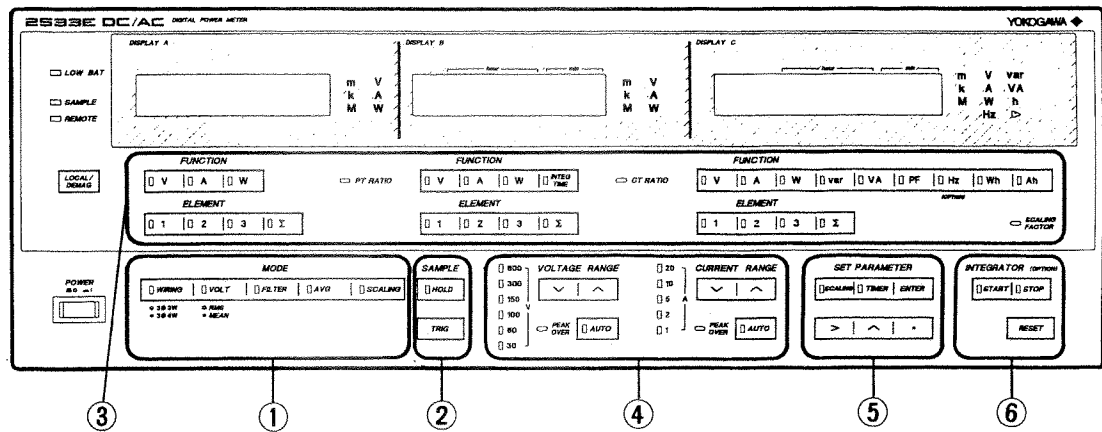

Figure 2-19.
Install the backup batteries according to section 2-2. Before any settings have been made with the front panel keys, the settings of the keys shown in Figure 2-19 when turning on power are at a default status given below. For a DC/AC model, when the power turns on, its DC-CT core is demagnetized.
A measurement mode is selected by MODE keys shown by ① in Figure 2-19. The initial status of the keys are given in Table 2-7.
The sampling hold status is turned ON or OFF by SAMPLE keys indicated by ② in Figure 2-19. The initial settings are given in Table 2-8.
A display mode is selected by FUNCTION and ELEMENT keys corresponding to DISPLAY A, B and C shown by ③ in Figure 2-19. The initial settings of the keys are given in Table 2-9.
Each measurement range is selected by VOLTAGE RANGE (V) and CURRENT RANGE (A) keys shown by ④ in Figure 2-19. The initial settings are given in Table 2-10.
Press key, shown by ⑤ in Figure 2-19. The key lamp comes on and, at the same time, PT ratio, CT ratio and scaling factor initial set value are indicated on DISPLAY A, B and C, as shown in Table 2-11.
Press key, shown by ⑤ in Figure 2-19. The key lamp comes on, DISPLAY A and B disappear as shown in Table 2-12, and initial timer setting is indicated on DISPLAY C.
At the same time, INTEGRATOR Keys shown by ⑥ in Figure 2-19 give initial settings shown in Table 2-13.